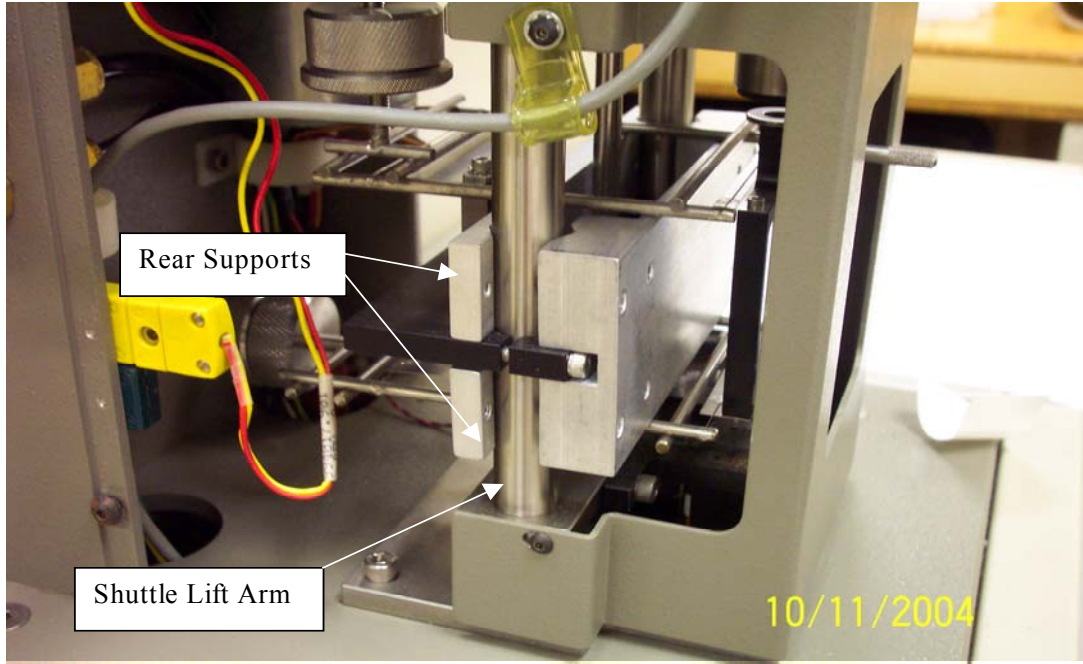

Figure 7
- Carefully slide the rear supports between the upper and lower suspensions (Figure 7).